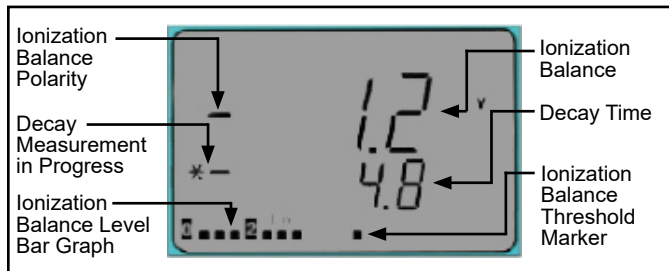

Figure 9. Balance and Decay Mode channel
1. Toggle the joystick until the Ionization Balance and Decay channel are displayed (Figure 9).